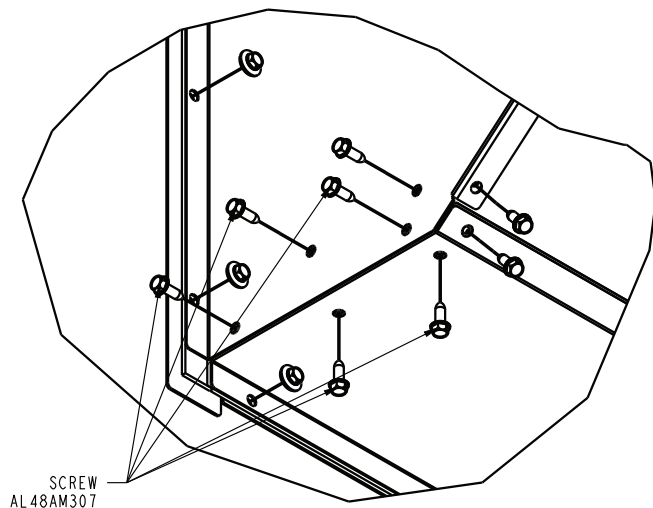

Fig. 79 — Securing the Bottom Panel
8. After attaching bottom panel to unit, attach bottom panel to side panel using the 1/4 in.-14 x 5/8 in. long sheet metal screws (without neoprene washer). See Fig. 79.